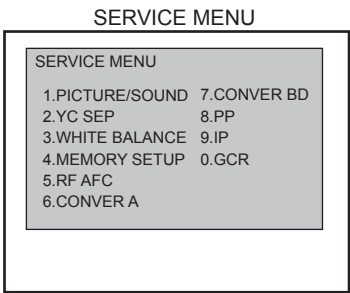

Fig.1
- b) The SERVICE MENU screen of Fig.1 is displayed.
- c) Verify what to set in the SERVICE MENU, and set whatever is necessary (Fig.1).